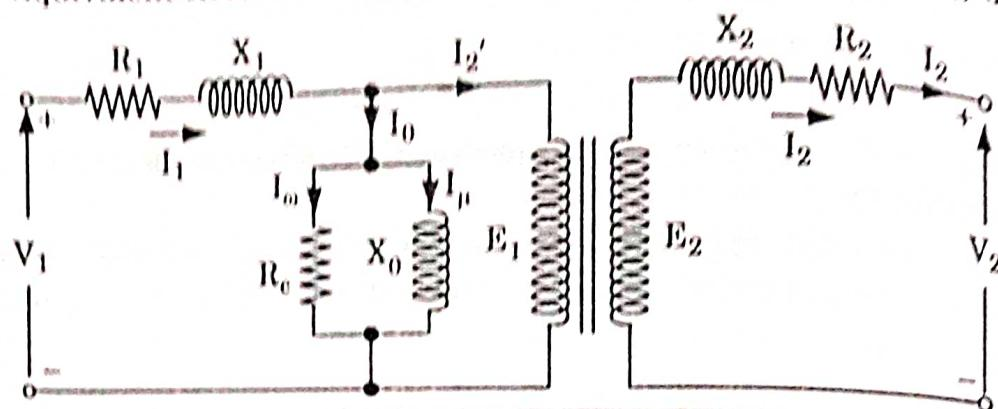

Fig. 3.5.1. Equivalent circuit of 3 $\phi$  induction motor.
1. Equivalent circuit of three phase induction motor is shown Fig. 3.5.1
2. From approximate equivalent circuit of induction motor shown in Fig. 3.5.1, the equations for primary and secondary sides are